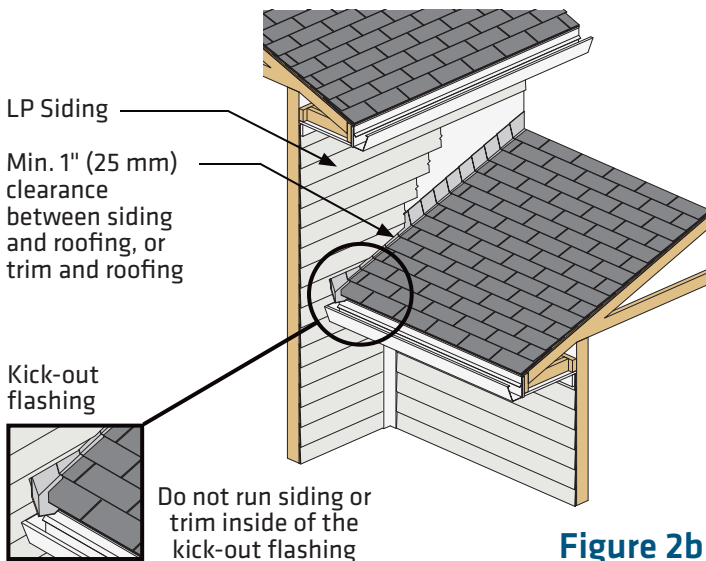

Figure 2b
- Minimum 1 inch (25 mm) clearance at intersection with roof line. (Figure 2b)